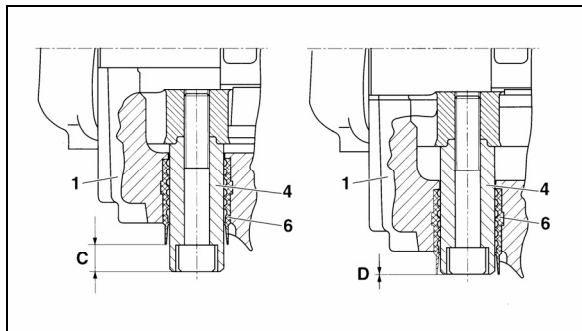

FIGURE 21: BRAKE PAD CHECK
Brake pads have to be checked on a regular basis depending on the vehicle operation. The remaining thickness of the pads should never be less than 3/32 in (2 mm). To check pad condition without removing the wheel, verify the position of guide bushing (6) relatively to guide sleeve (4) (see Fig. 21). When guide sleeve is in alignment with guide bushing, brake pad thickness has to be checked more precisely with the wheel removed. When replacing brake pads, all four pads on an axle have to be changed at the same time. There is no inner or outer pad,